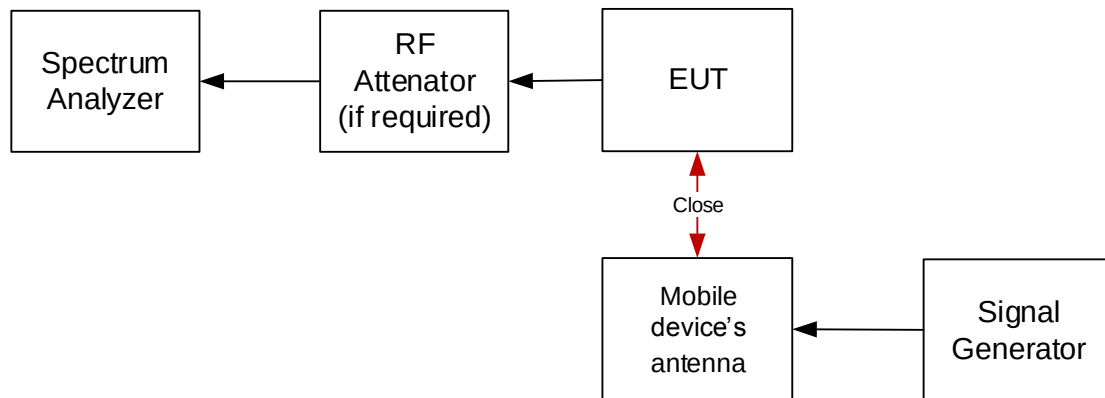

Figure 1
1. Connect the EUT to test equipment as shown in Figure 1. Begin with the uplink input (server) port connected to the spectrum analyzer and the wireless device's antenna port connected to the signal generator.